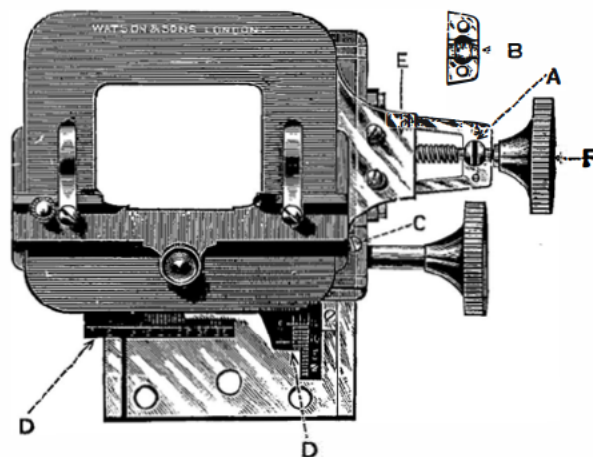

FIG. 18. Surface view of the Watson Standard Stage showing sliding-bar scales and verniers, and method of fitting stationary milled head.
The Stage surface is in full view, Fig. 18, and the manner in which the movements are effected will be plainly seen. The horizontal travel to the Stage is made by the rotation of the stationary milled head F, that is, it does not move with the traversing plates of the Stage. The plate E is connected with the long screw operated by the milled head F, and the screw is supported by a slotted collar, which gives adjustment for wear. To give the smoothest possible motion, the screw has a ball fitting (A): in this is a groove, which acts as a receptacle for foreign matter. The little plate B fits over the ball, and is so attached that no internal shake takes place. C is the adjusting screw for regulating the pressure of the pinion upon the rack in the vertical movement of the Stage. The Verniers D, Fig. 18, which can be used for measuring or for "finding" objects, are an extra, costing 30/-. When verniers are supplied it is advantageous to have the sliding bar, as illustrated, at an extra cost of 30/-.